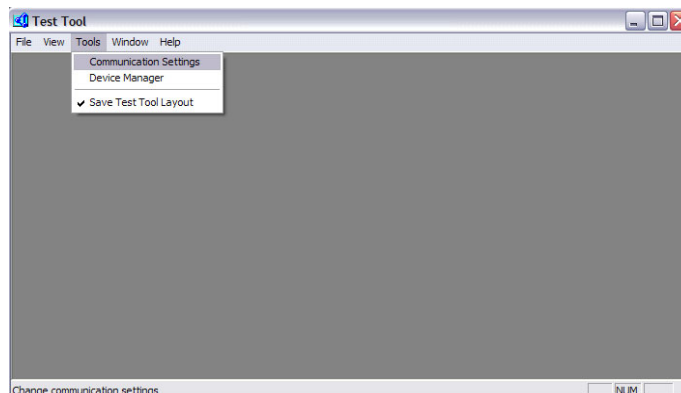

Figure 43. Communication Settings in Test Tool
6. As shown in Figure 43, from the Test Tool window, select Tools -> Communication Settings.